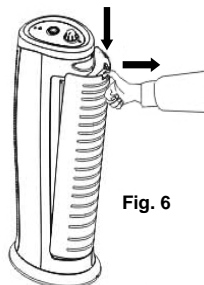

Fig. 6
2. Pull air intake grill away from unit. (Fig. 6)